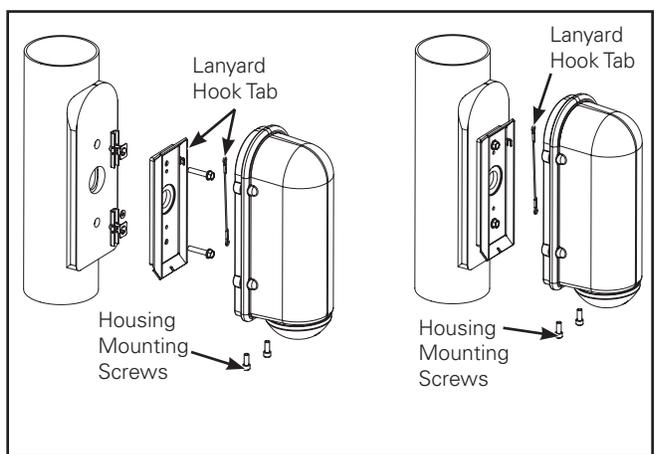

Figure 4.
**Note:** 3' of leads are provided extending outside the housing. (Figure 4.)
**Note:** Do not to pinch the lanyard cable when installing the housing. Once the housing is in position, tighten using (2) set screws. Tighten until screw is bottomed out.
**Adjustable Wall Mount Arm (Figure 4.)**